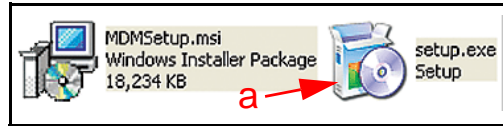

Figure 2 MDM Setup Selection Icons
3. In the unzipped MDM Folder, click to run the setup.exe Setup File (Figure 2 a).